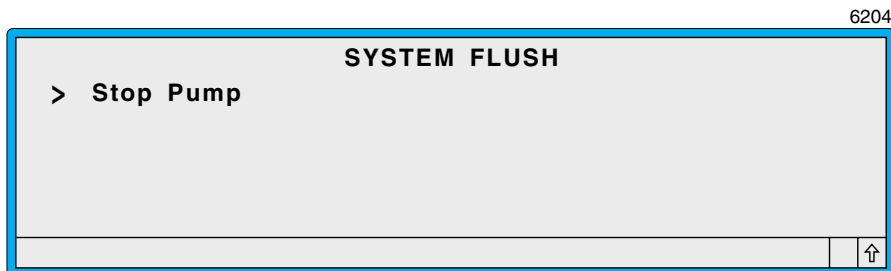

Figure 4. System Flush Screen (Stop Pump)
- 9 Press [enter] to start the pump. The pump will run at maximum pressure for 1 minute or until [enter] is pressed to stop the pump (this option appears on the screen while the pump is running). See figure 4.